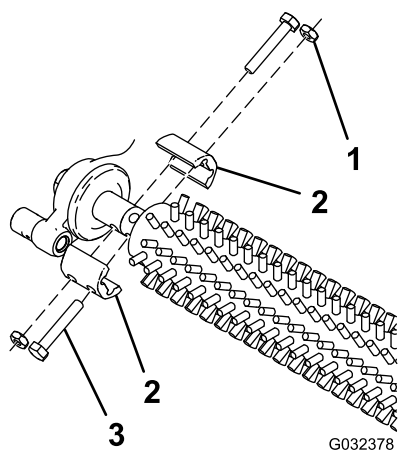

Figure 1
3. Remove and retain the 4 bolts, jam nuts, and shaft clamps securing the groomer brush to both sides of the machine (Figure 1).